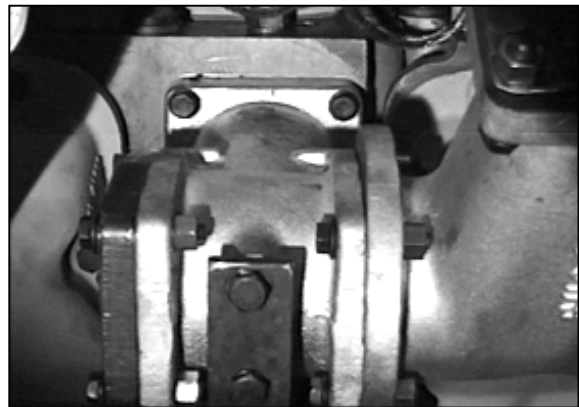

Fig.5 Disconnect the exhaust flanges
6. Disconnect air inlet and exhaust flanges (**Fig.5**).